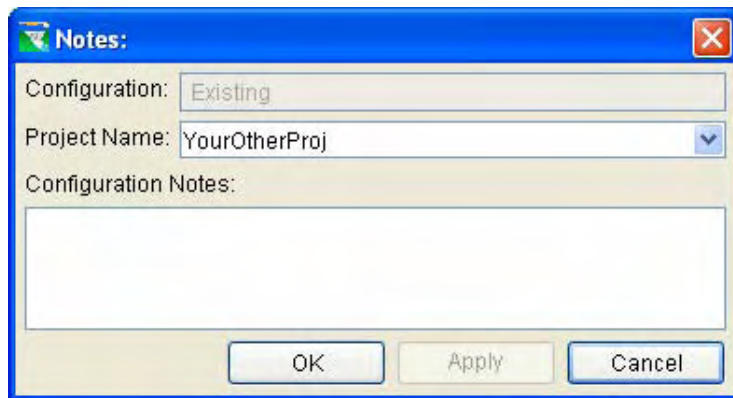

Figure 6.25 Configuration Notes for “Other” Projects
2. From the shortcut menu, select **Configuration Notes**. This command opens a dialog box (Figure 6.25) for entering text information about an Other Project that is specific to the configuration.